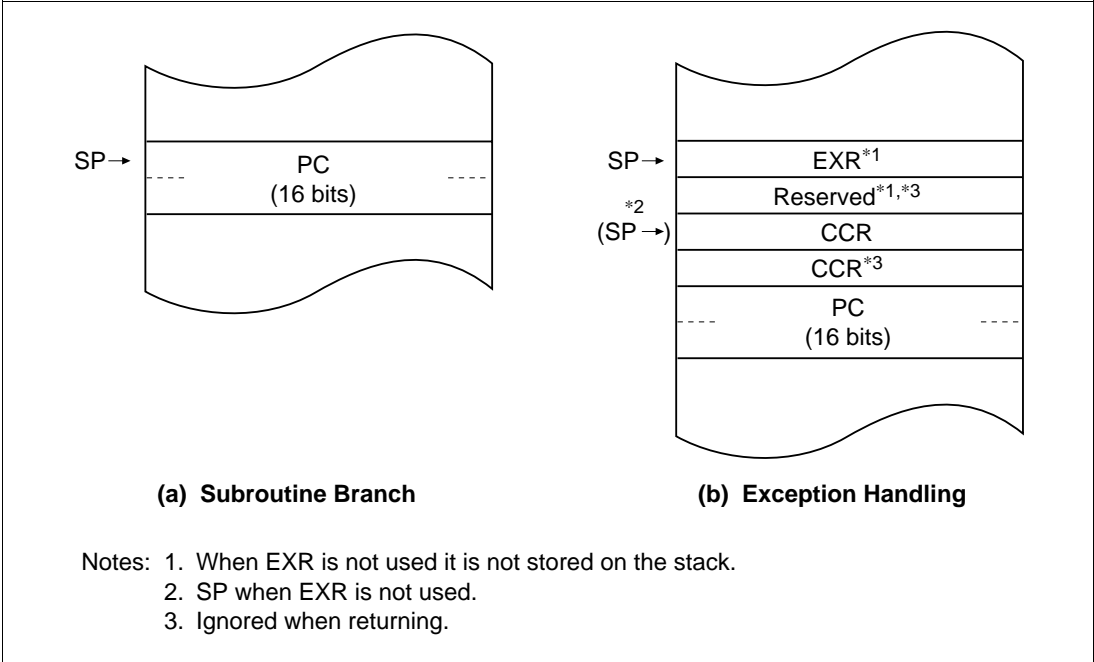

Figure 2.3 Stack Structure in Normal Mode
Stack Structure: When the program counter (PC) is pushed onto the stack in a subroutine call, and the PC, condition-code register (CCR), and extended control register (EXR) are pushed onto the stack in exception handling, they are stored as shown in figure 2.3. When EXR is invalid, it is not pushed onto the stack. For details, see section 4, Exception Handling.